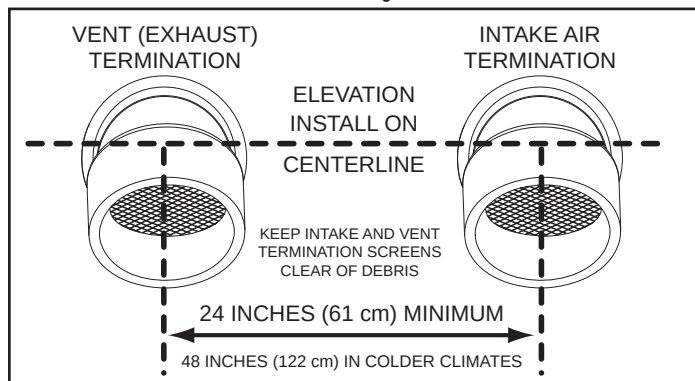

Figure 25. Side-Wall Termination - Direct Vent
4. If installing both an intake air and vent termination in a Direct Vent configuration through a sidewall there must be a minimum of 24 inches (61 cm) separation, measured on vertical center line, between the intake air and vent terminations. See *Figure 25*.
6. If installing both intake air and vent terminations in a Direct Vent configuration through a sidewall the intake air and vent terminations must be installed at the same elevation measured on horizontal center line - see *Figure 25*.
- However, the distance between the closest vent and intake air terminations must be a minimum of 24 inches (61 cm). In colder climates this separation should be increased to at least 48 inches (122 cm). See *Figure 25* (page 27).